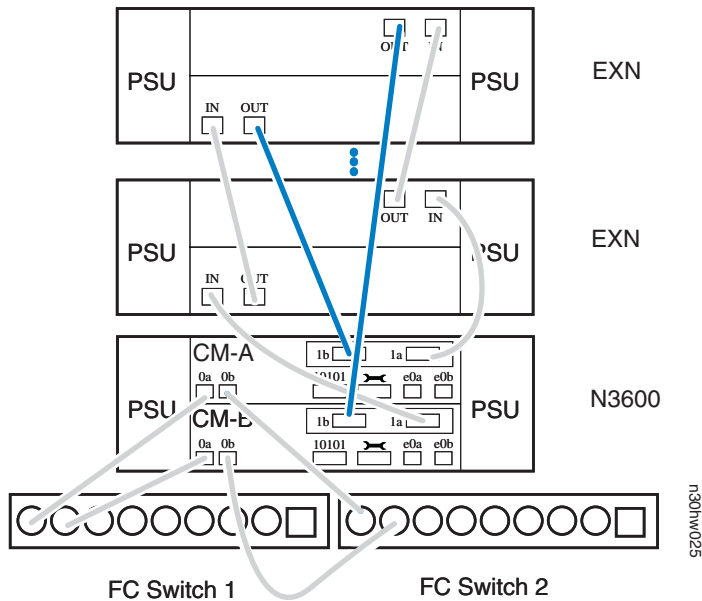

Figure 7. Cabling the N3600 expansion adapter to storage expansion units
8. As shown in Figure 7 on page 26, cable the dual-port expansion adapter Port 1b on the top controller module (CM-A) to the last storage expansion unit Channel B ESH2/ESH4 or AT-FCX OUT port.
9. As shown in Figure 7 on page 26, cable the dual-port expansion adapter Port 1b on the bottom controller module (CM-B) to the last storage expansion unit Channel A ESH2/ESH4 or AT-FCX OUT port.